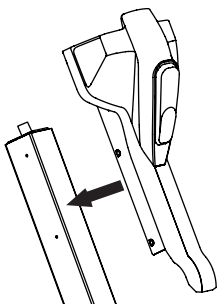
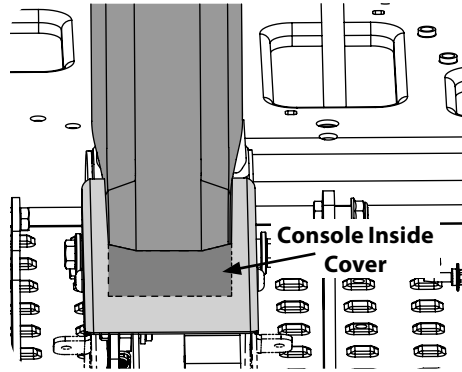

Figure 3
Figure 4
3. Slide the console onto the steering column with the wiring harness tucked in behind the console. Make sure the lower portion of the console is inside the lower column cover. See Figure 3 and Figure 4.